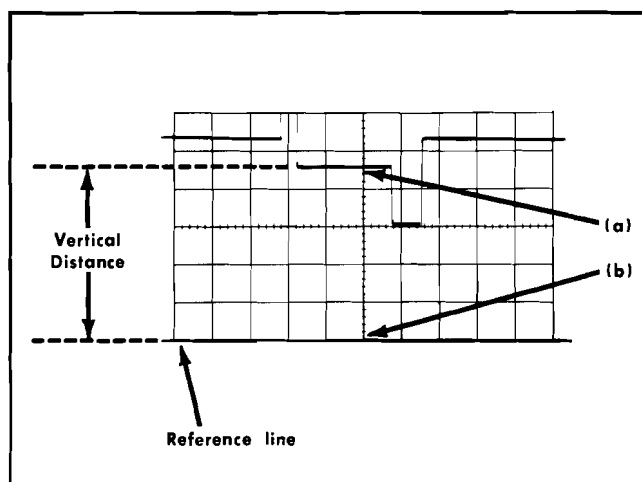

Fig. 2-2. Measuring instantaneous dc voltage with respect to a reference.
9. Measure the distance in divisions between the ground reference line established in step 6 and the point on the waveform to be measured. For example, in Fig. 2-2 the measurement is made between points (a) and (b).
As an example of this method of measurement, assume that the vertical distance is 4.6 divisions (see Fig. 2-2), INV (CH 1) NORM switch set to INV, using a 10× attenuator probe and a VOLTS/DIV setting of 2.